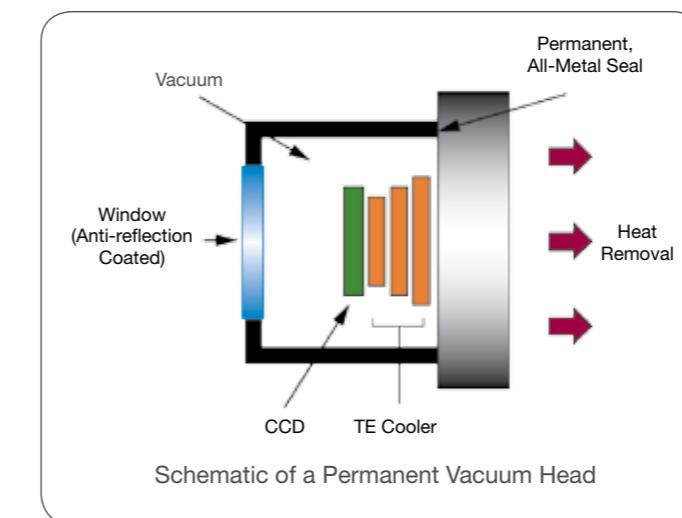

Figure 1
This is not so apparent for shorter exposure times (e.g. < 1 sec) but when you go towards multiple secs to mins it is certainly apparent. Some example dark noise images are show in Fig 1 and Fig 2 for two different cooling temperatures, taken with the iXon3 888 camera at x1000 EM gain.
Figure 1: (A) shows DARK IMAGES taken at x1000 gain at different cooling temperatures, 29 ms exposure time. Vertical shift speed was 0.5 μ s/row to ensure minimal CIC. (B) shows typical line intensity profiles across a row of 512 pixels, taken from such dark images at three different cooling temperatures. The cleanest noise floor is clearly seen under conditions of deep cooling, even for such short exposure times.
Figure 1 shows a series of dark images and corresponding intensity profiles (across a random row from each image), using 30 ms exposures and EM gain of x1000. The cooling temperature in each case was set at -85°C to ensure virtual elimination of Darkcurrent contribution, so any amplified noise spikes are derived primarily from the remaining CIC.
Figure 1 – (A) shows DARK IMAGES taken at x1000 gain at different vertical shift speeds, 29 ms exposure time. Cooling temperature was -85°C to ensure minimal Darkcurrent contribution.